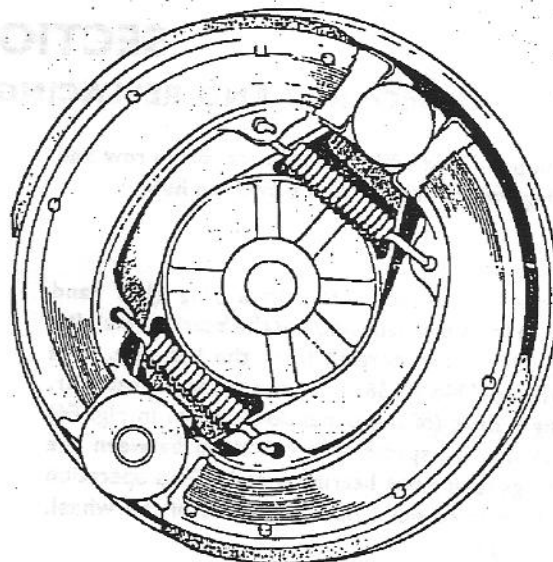

Fig. F5. Position of brake shoes
To reassemble the brake shoes to the brake anchor plate first place the two brake shoes on the bench in their relative positions. Fit the return springs to the retaining hooks, then taking a shoe in each hand (see Fig. F5) and at the same time holding the springs in tension, position the shoes as shown over the cam and fulcrum pin and snap down into position by pressing on the outer edges of the shoes.
**Note.** When replacing the brake shoes, note that the leading and trailing brake shoes are not interchangeable and ensure that they are in their correct relative positions as shown in Fig. F5.